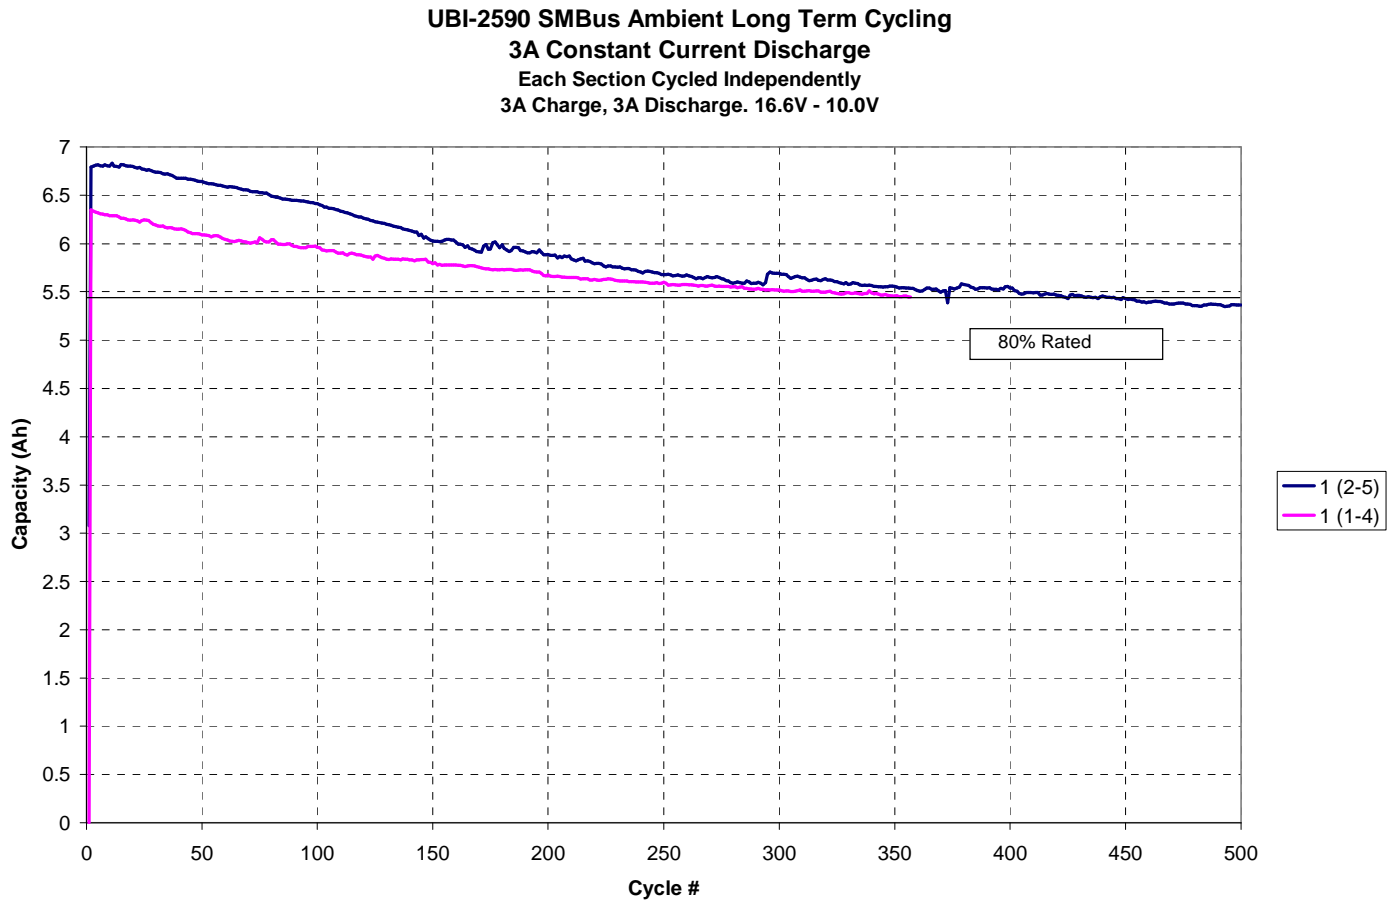

Figure 8
- 12.2. A graph of sections cycled independently under ambient temperatures. A constant current discharge of 3A was used until the voltage reaches 10.0v. This graph illustrates that both sections of the pack are capable of supplying over 80% of rated capacity at 300 cycles. See Figure 8.